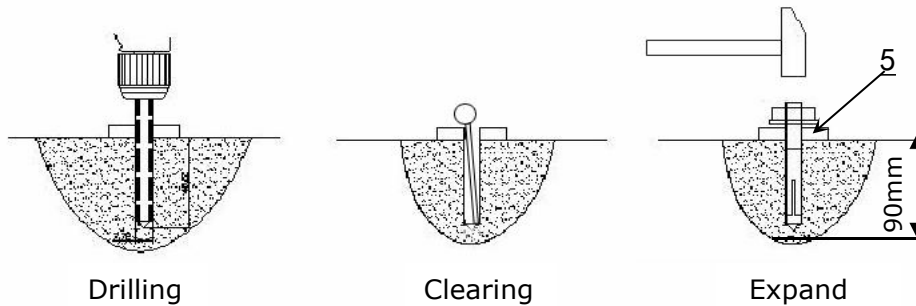

Fig. 17
2. Using the prescribed rotary hammer drill, and drill all the anchor holes and install the anchor bolts. Do not tighten the anchor bolts (See Fig. 17).